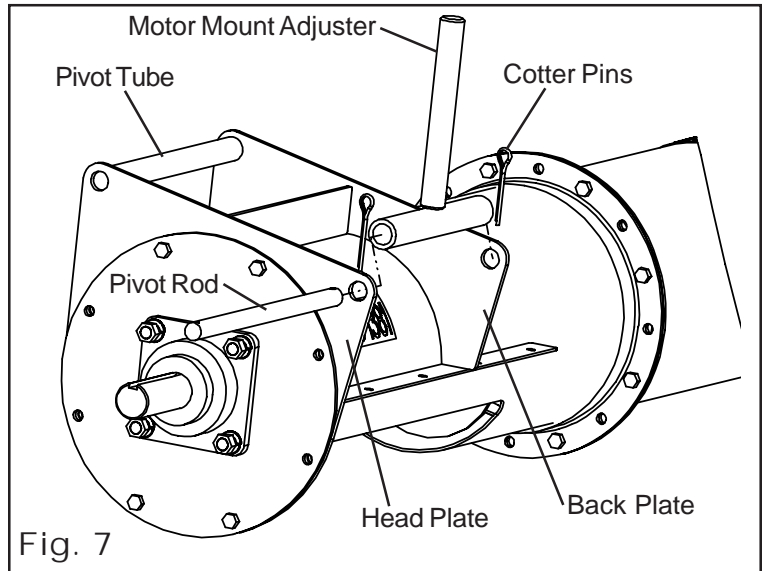

Fig. 7
- B. Insert Pivot Rod through the Tube plates and Motor Mount Adjuster. Secure in place with two (2) 3/16" x 2" cotter pins. (See Figure 7)